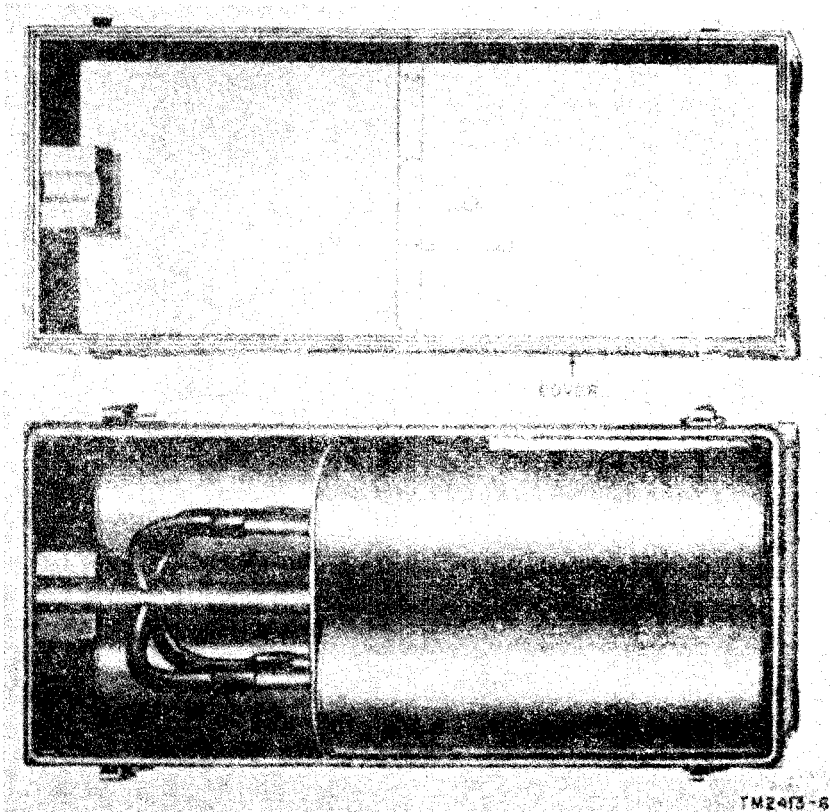

Figure 6. Hydrogen Generator Set AN/TMQ-3 in Case CY-219/TMQ-3 with cover of case removed
(2) *Hydrogen Generator Set AN/TMQ-3.* The components are placed in their compartments in Case CY-219/TMQ-3 (fig. 6) and the case is closed and secured with its latches. The case is placed in a water-resistant fiberboard box, which is then sealed. The sealed fiberboard box is then inclosed in a nailed wooden shipping box. For export shipment, the shipping box is banded with steel strapping.